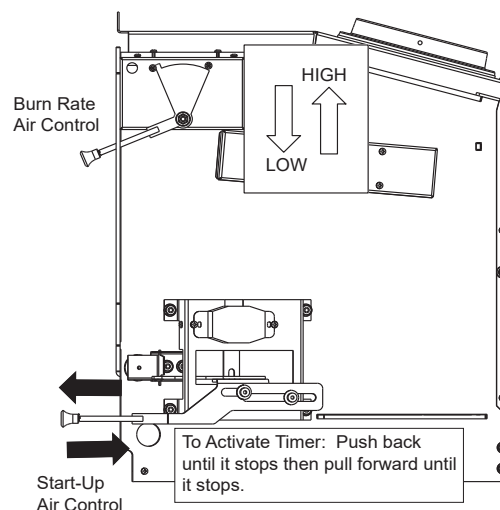

Figure 13.2 - Activating Timer
2. Follow these burn rate instructions below (Figure 13.2).